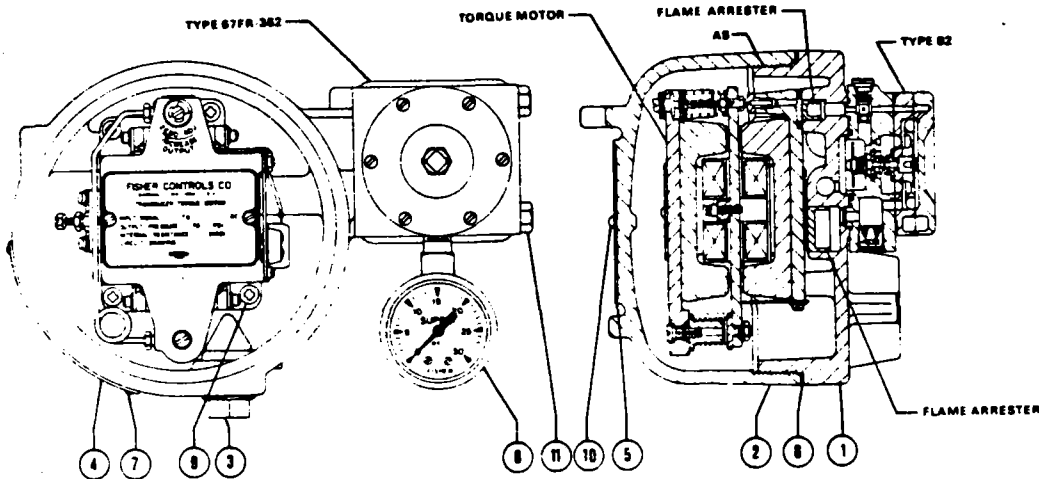

Figure 5. Type 546 Transducer
5. The nozzle is large enough (0.070 inch diameter) to minimize clogging. Do not attempt to remove the nozzle for cleaning because this cannot be done without disassembling the torque motor. However, if the nozzle is clogged, remove the entire torque motor assembly from the case by removing four screws (key 9, figure 5). Then run a wire through the nozzle from the underside of the assembly.
6. Check the flame arresters (figure 5) to see if they need cleaning. To do this, the entire torque motor assembly as shown in figure 6 has to be removed from the case. If flame arresters are dirty, clean by blowing them out with air pressure.
1. Disconnect the external lead wires from the terminal mounted bracket assembly (key 53).
3. Loosen four machine screws (key 9, figure 5) that hold the torque motor assembly to the case. Remove entire torque motor assembly from case.
6. Tighten flexure pivot screws. Replace torque motor assembly and tighten screws (key 9, figure 5). Make sure that O-ring (key 37) is in place. Connect external lead wires and open air supply.
7. Make final adjustment of span with the span adjustment screw (key 24).
Type 546, 546S & 546ST Transducers (figure 5)